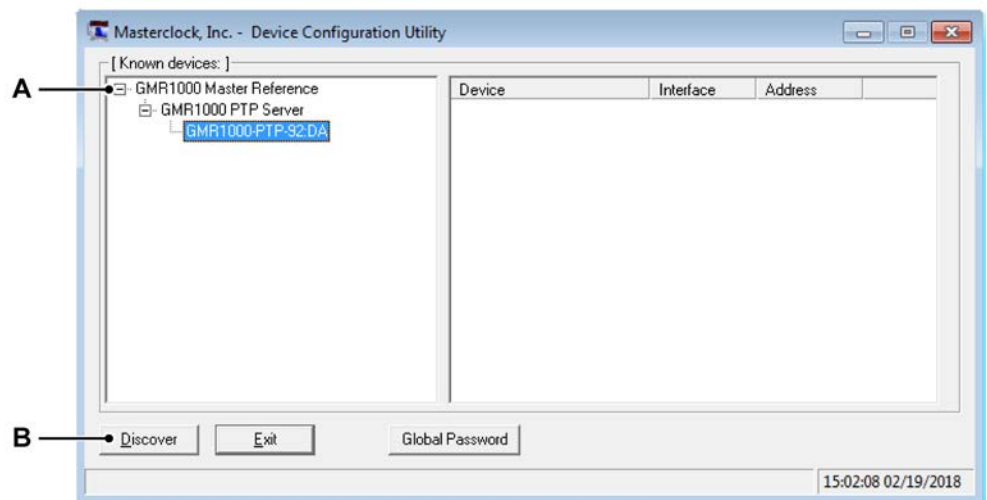

Figure D.18: Device Configuration Utility tool - Detected devices
- 1 Start the WinDiscovery tool from Masterclock®, this will show the devices on the network (see Figure D.18).